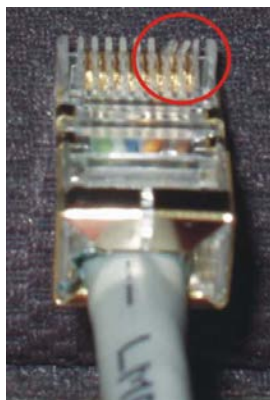

Figure 2-2: Console cable connector damage example
1. Note the protective cover connected to the console cable. This is intended to protect the console cable connectors during shipping and while routing the console cable during installation. Disconnect the generator end of the cable (the end with the ferrite bead) from the protective cover, and then route the end of the cable with the protective cover attached as required. Remove and discard the protective cover when finished. After removing the protective cover, inspect the console cable connectors for any damage. Please see figure 2-2 for an example of such damage.